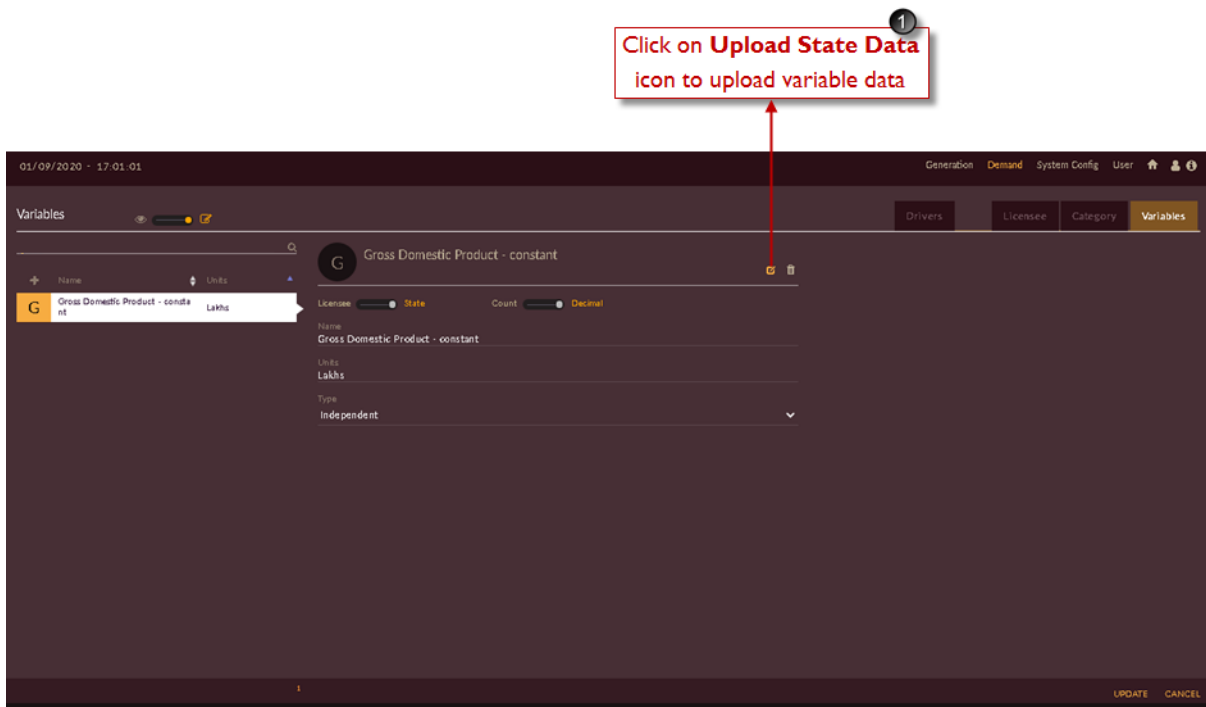

Figure 8. Upload State Data Icon
1. Select the variable for which you need to upload the data (say Gross Domestic Product), then click on **Upload State Data**  icon which is shown in Figure 8.